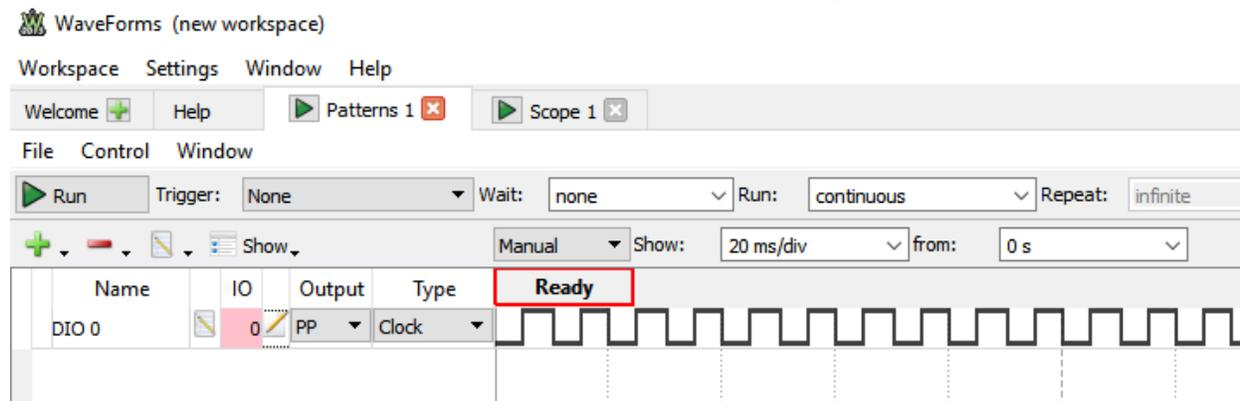
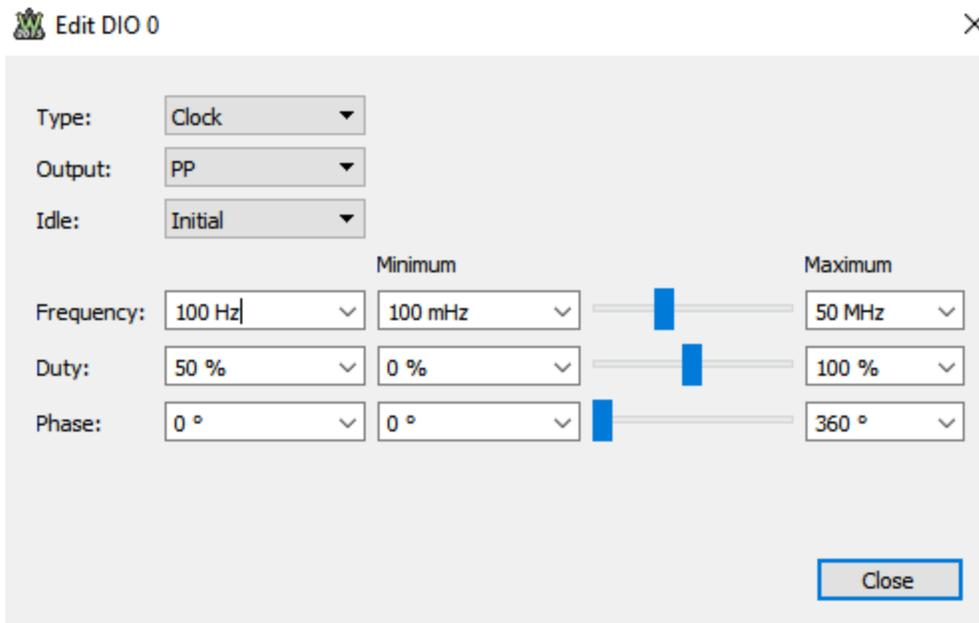

Figure D-2
Figure D-3
- 9. Click to add a channel. Add a Signal and Add DIO 0. For Output choose Push-Pull (PP) and for Type choose Clock. Your display will not look like Figure D-2 because you still have to select the frequency. To do this, click on the little pencil icon to the left of PP and you will see the window shown in Figure D-3. Set the frequency to 100Hz. Then your Patterns window should look like Figure D-2.